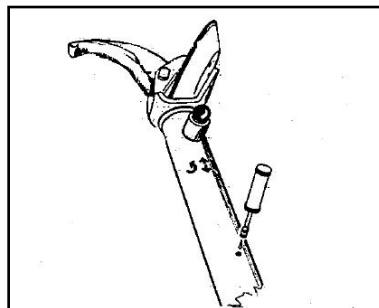

Figure 30
- 4) In the same way, grease the tool holder arm cylinder (See Figure 30).